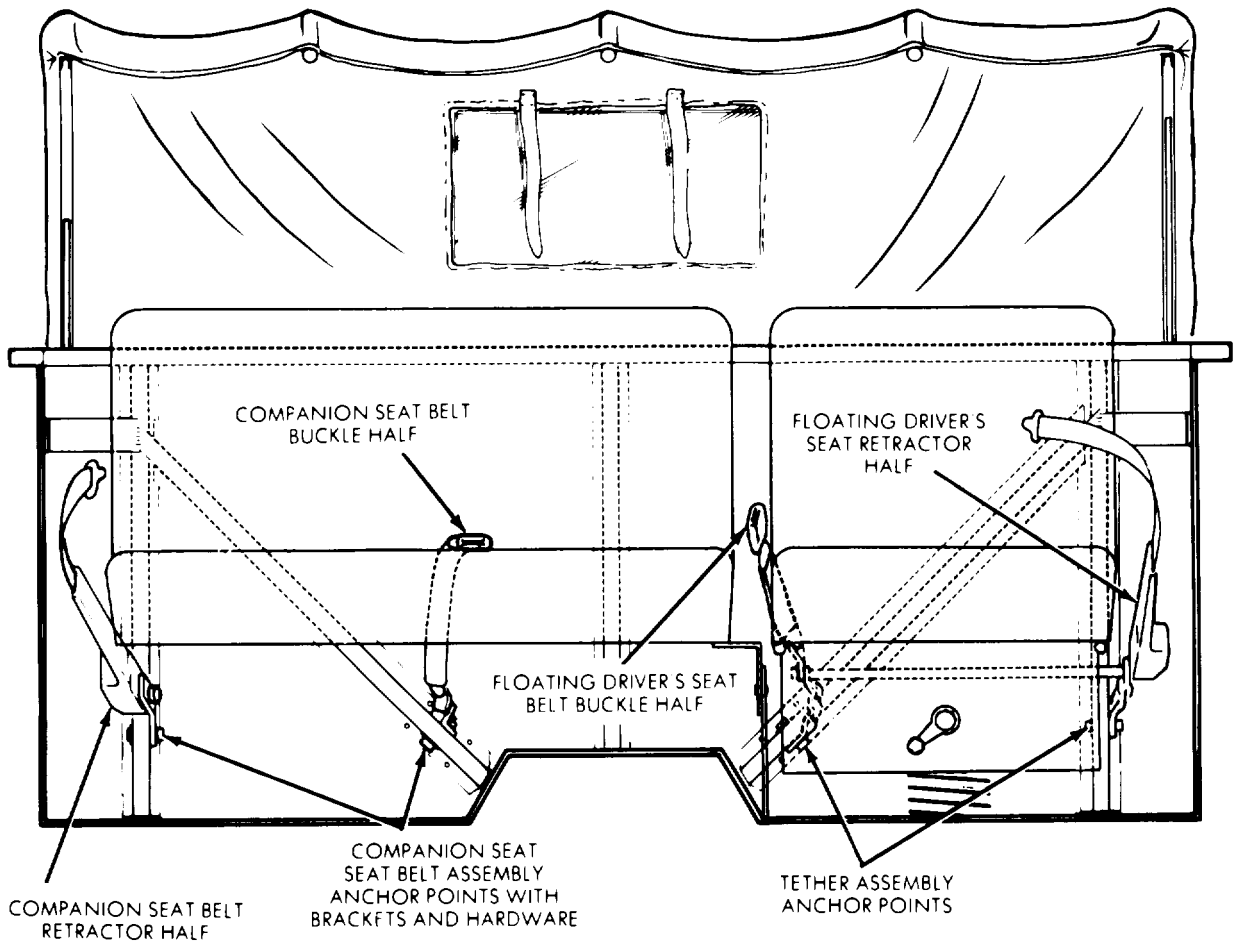

Figure 5. Floating Driver's and Companion Seats
- b. When installed correctly, seat belt modification to floating driver's seat will appear as in figure 5.